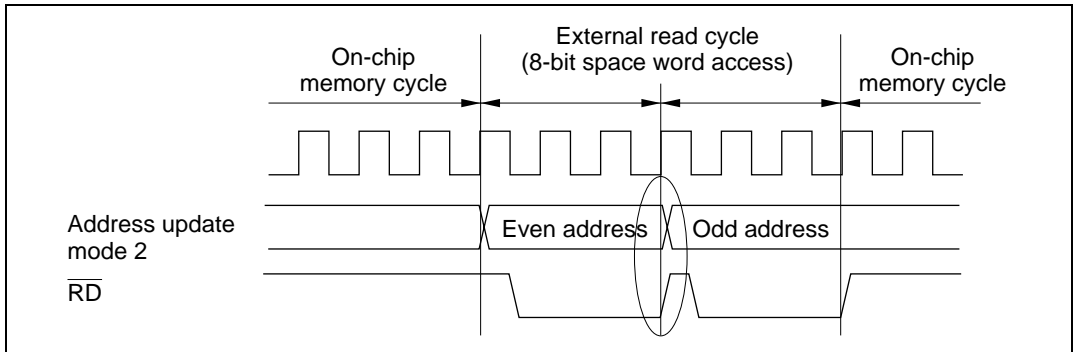

Figure 6.6 Example of Consecutive External Space Accesses in Address Update Mode 2
- In order to secure address holding with respect to the rise of \overline{RD} , when address update mode 2 is used an external space read access must be completed within a single access cycle. For example, in a word access to 8-bit access space, the bus cycle is split into two as shown in figure 6.6., and so there is not a single access cycle. In this case, address holding is not guaranteed at the rise of \overline{RD} between the first (even address) and second (odd address) access cycles (area inside the ellipse in the figure).